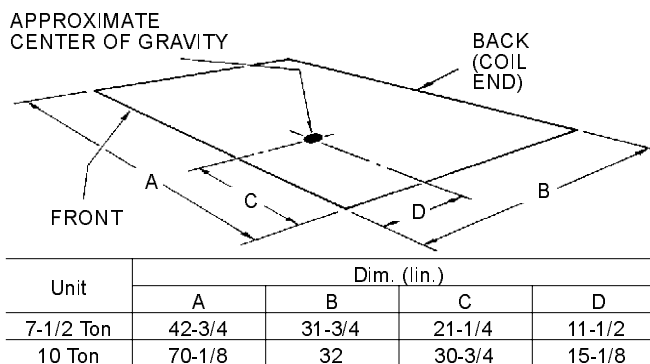

FIG. 1 - CENTER OF GRAVITY
joists. (2) Extend beyond the dimensions of the unit to distribute the load on the roof, (3) Be capable of adequately supporting the entire unit weight. Refer to Figure 1 and Table 2 for load distribution and weights.
A unit can also be supported by concrete piers. These piers should: (1) extend below the frost line, (2) be located under the unit's four corners and (3) be sized to carry the entire unit weight. Refer to Figure 1 and Table 2 for the center of gravity and unit weight.